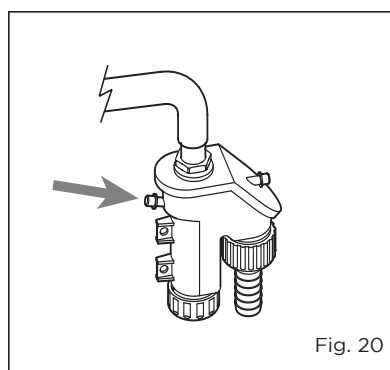

Fig. 20
#### 4.5 MAINTENANCE (fig. 20)
**During maintenance operations, it is important to verify that the condensate trap contains water (this check is particularly important if the generator has not been used for extended periods of time). If necessary, the condensate trap can be filled using the filling point provided (fig. 20).**